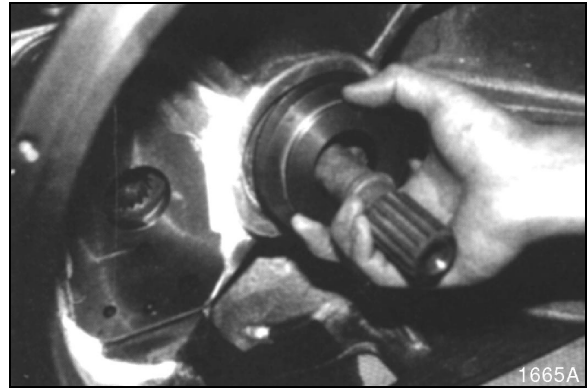

Figure 72
9. Remove oil seal case from driver shaft. See Figure 72.